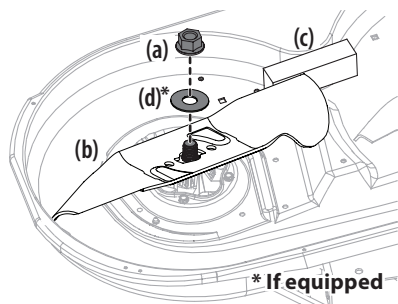

Figure 41
- When re-installing the blades, be sure of the following (see Figure 41):
- Use a 15/16" wrench to hold the hex nut on top of the spindle assembly when loosening the hex nut (a) and washer (d)\* securing the blade (b). A block of wood (c) may be placed between the deck housing and the cutting edge of the blade (b) to help in breaking loose the hex nut (a) and washer (d)\*. See Figure 41.